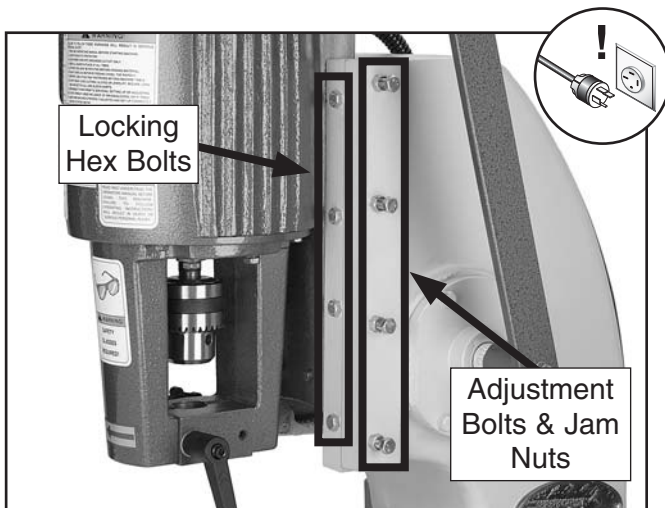

Figure 44. Head gib locking and adjustment bolts.
2. Loosen the four locking hex bolts that secure the head gib (see **Figure 44**).